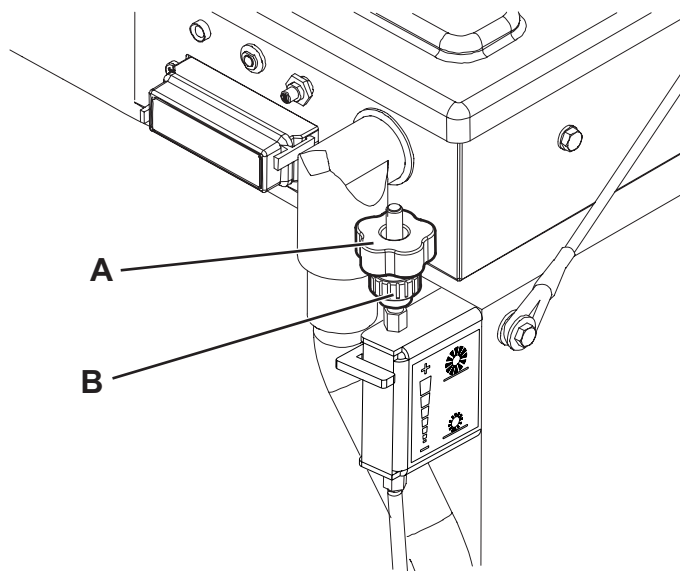

Figure 3
3. Turn the ignition key (72) to "0".
4. Open the hood (7).
5. Loosen the knob (A, Fig. 3) on the left side of the machine.
6. Turn the knob (B), and remind that: